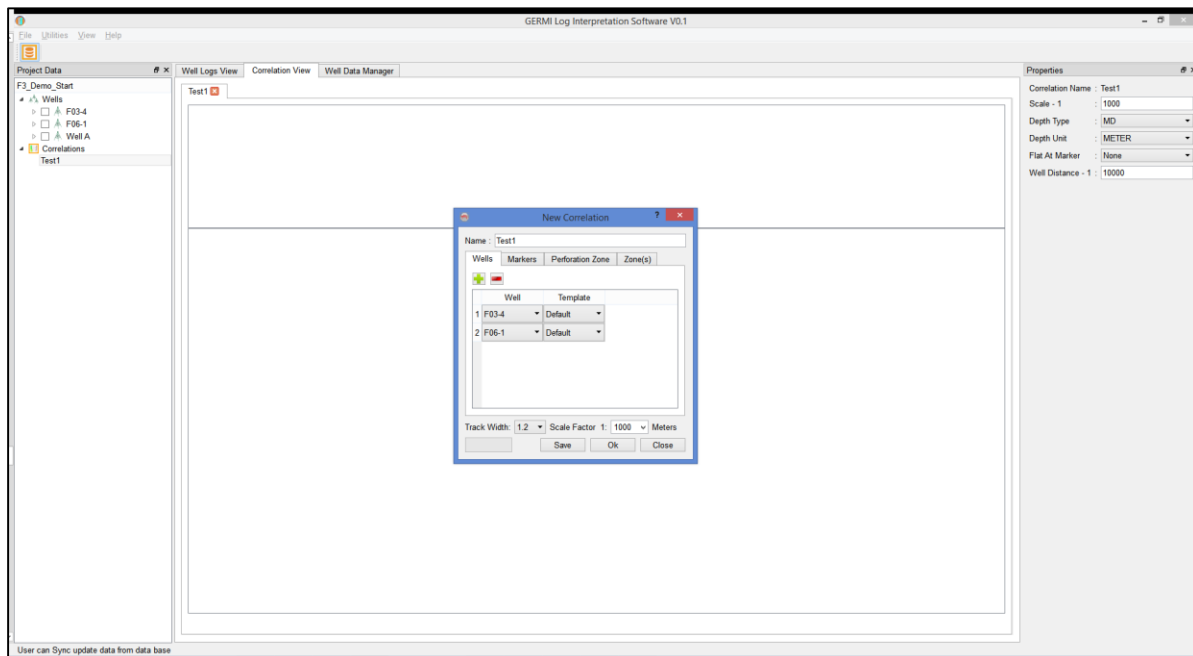

Figure 5.5 Wells tab in correlation template.
Step 4: Click on plus button to add the multiple Well. For each well user can select different template or same global template for logs display as shown in figure 5.5.